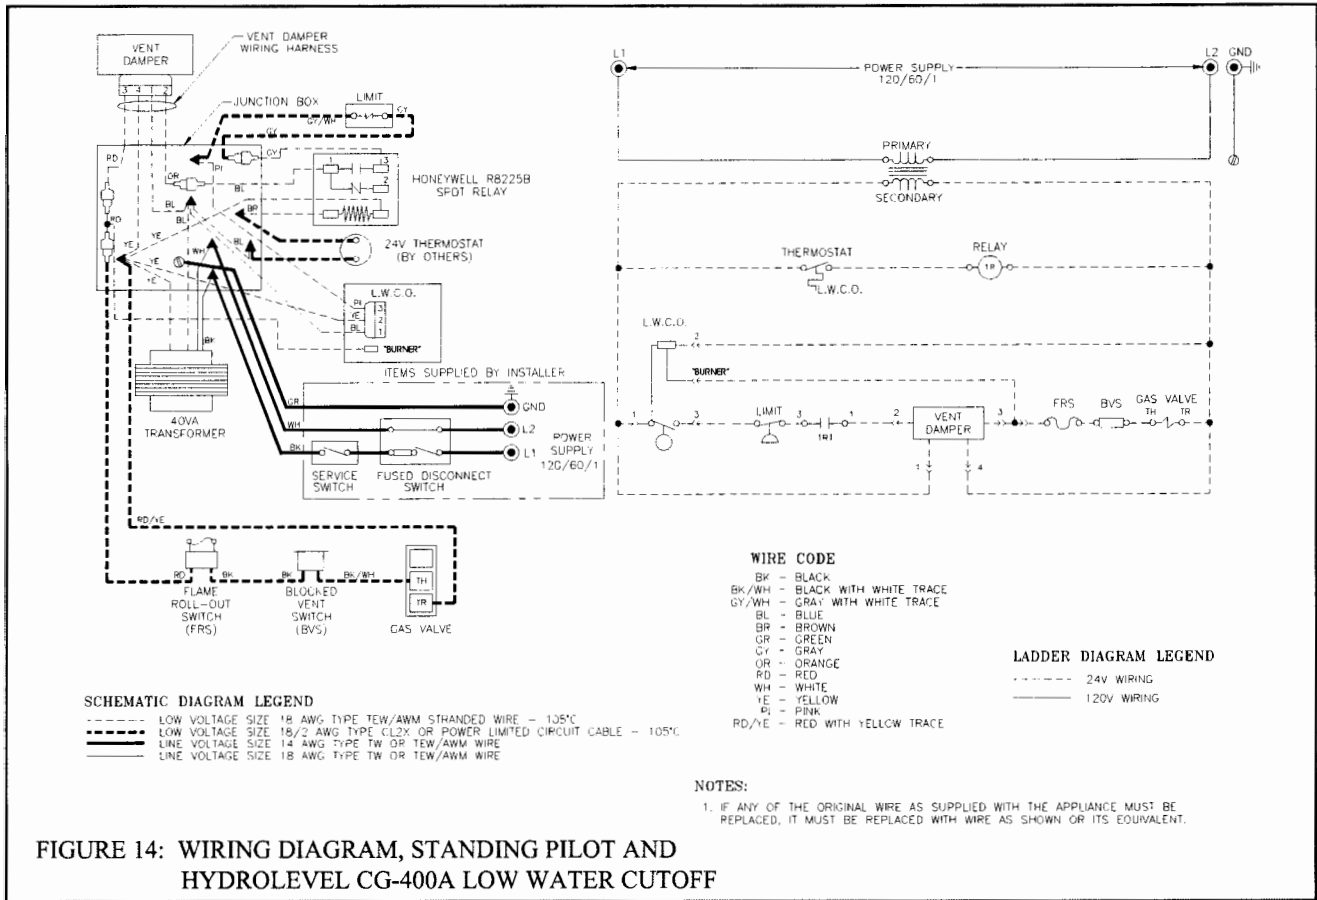

FIGURE 14: WIRING DIAGRAM, STANDING PILOT AND HYDROLEVEL CG-400A LOW WATER CUTOFF
- 1) 120 Volt Wiring - The boiler should be provided with its own 15A branch circuit with fused disconnect. All 120 volt connections are made inside the junction box on the left side of the boiler. Remove the transformer to gain access to this box (also see Figures 14 through 17):
(Refer to Figures 14 through 17 for ladder and connection diagrams)